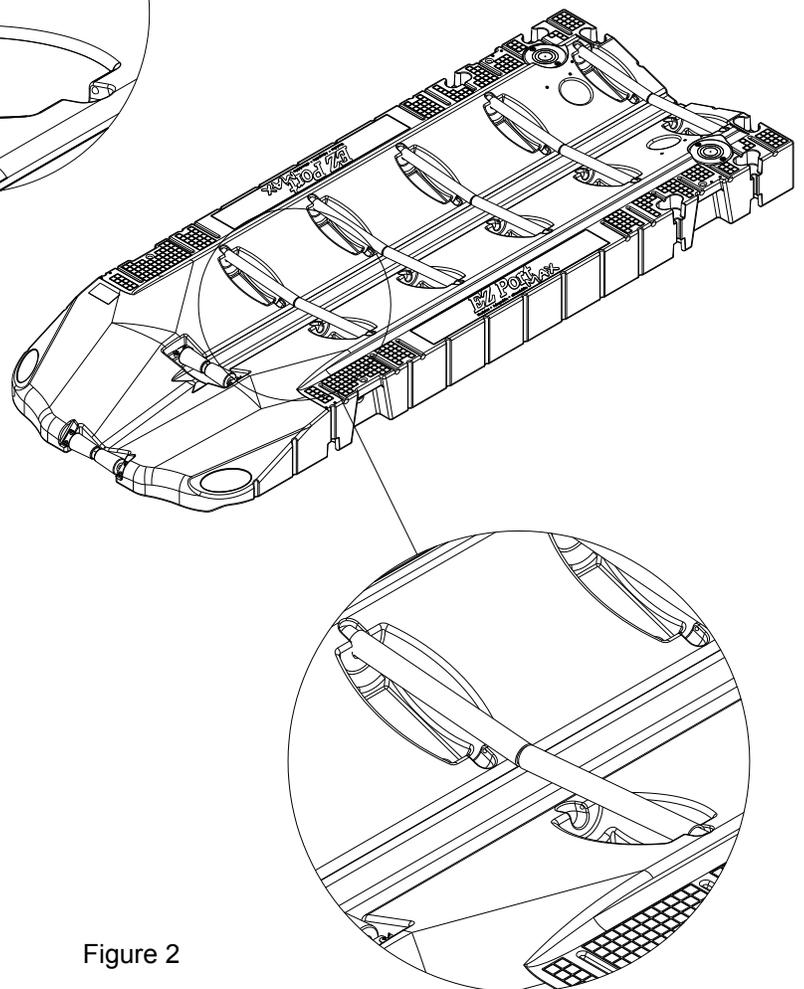

Figure 2
- Install kayak rollers as shown in Figure 2. Use a rubber mallet to seat the aluminum pipe into the Port Max roller holders.